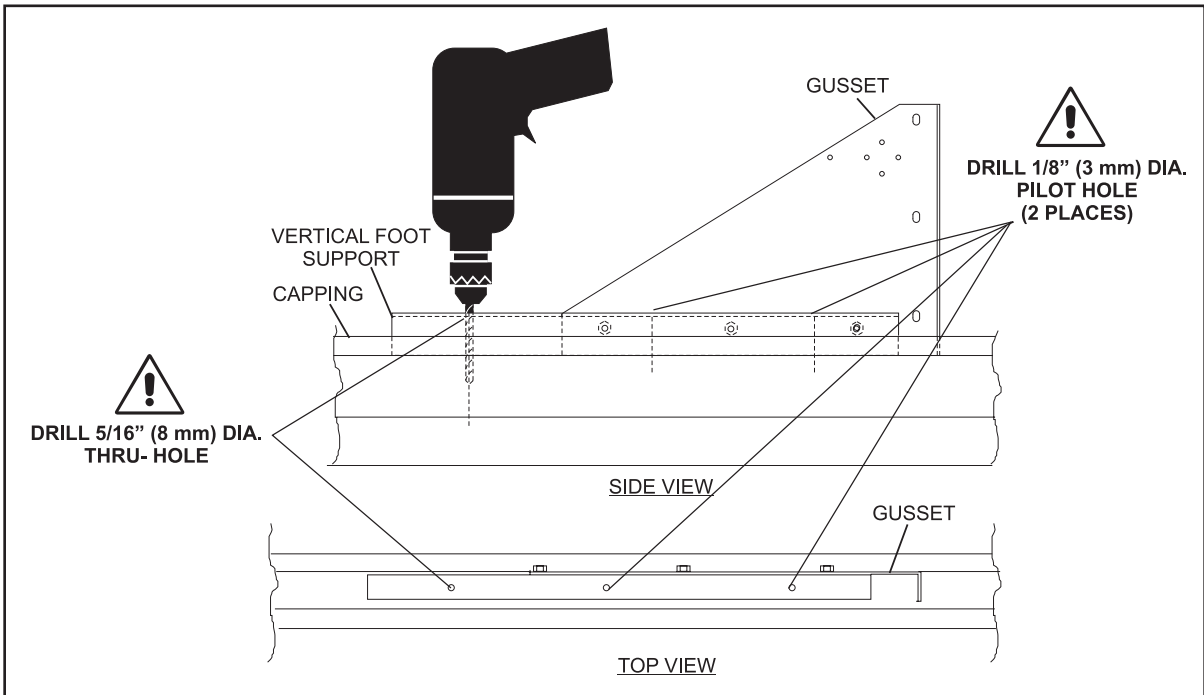

Figure 5
4. Drill two 1/8" (3 mm) pilot holes and one 5/16" (8 mm) thru-hole at marked locations as shown in *Figure 5*.